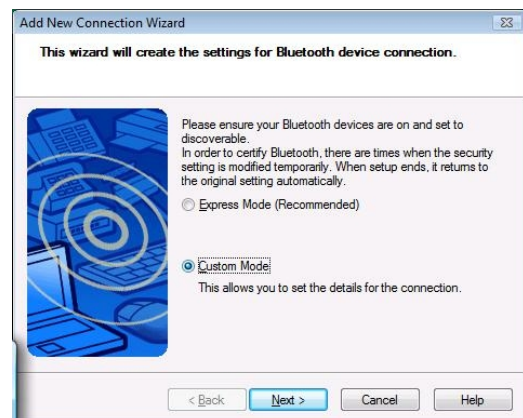

Figure 68 – Custom Mode
2. When the **Add New Connection Wizard** displays, select **Custom Mode** (see Figure 68). The software searches for Bluetooth devices. Select your device and click **Next**.